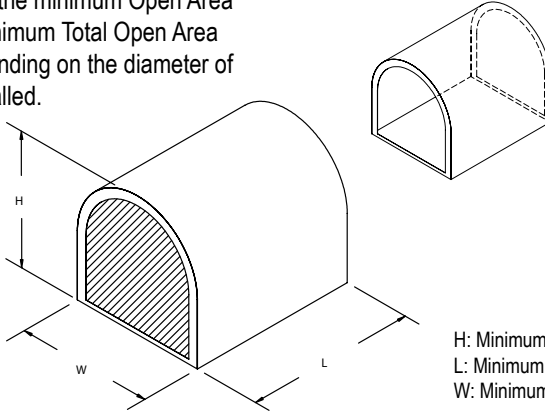

Figure 3
The Arch or Mailbox style shroud generally has two solid sides and a solid top. The exhaust openings are on the two (2) open ends of the arch. (**Figure 3**) Table 2 lists the minimum Shroud dimensions, the minimum Open Area per side, and the minimum Total Open Area for the Shroud, depending on the diameter of DuraChimney II installed.